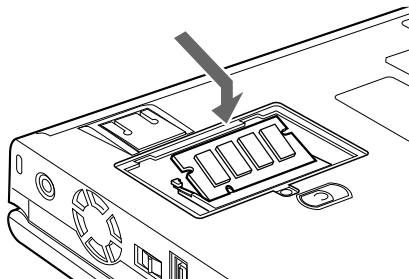

Figure 5-13 Installing a Memory Upgrade Module
7. Align the memory upgrade module with the part side up. Align the connector edge of the memory upgrade module with the connector slot in the compartment. The connector will be pointing toward the rear of the notebook. (Figure 5-13.)
8. Insert the memory upgrade module at a 45° angle. (Figure 5-13.) Press the connector edge of the module firmly down and into the connector.